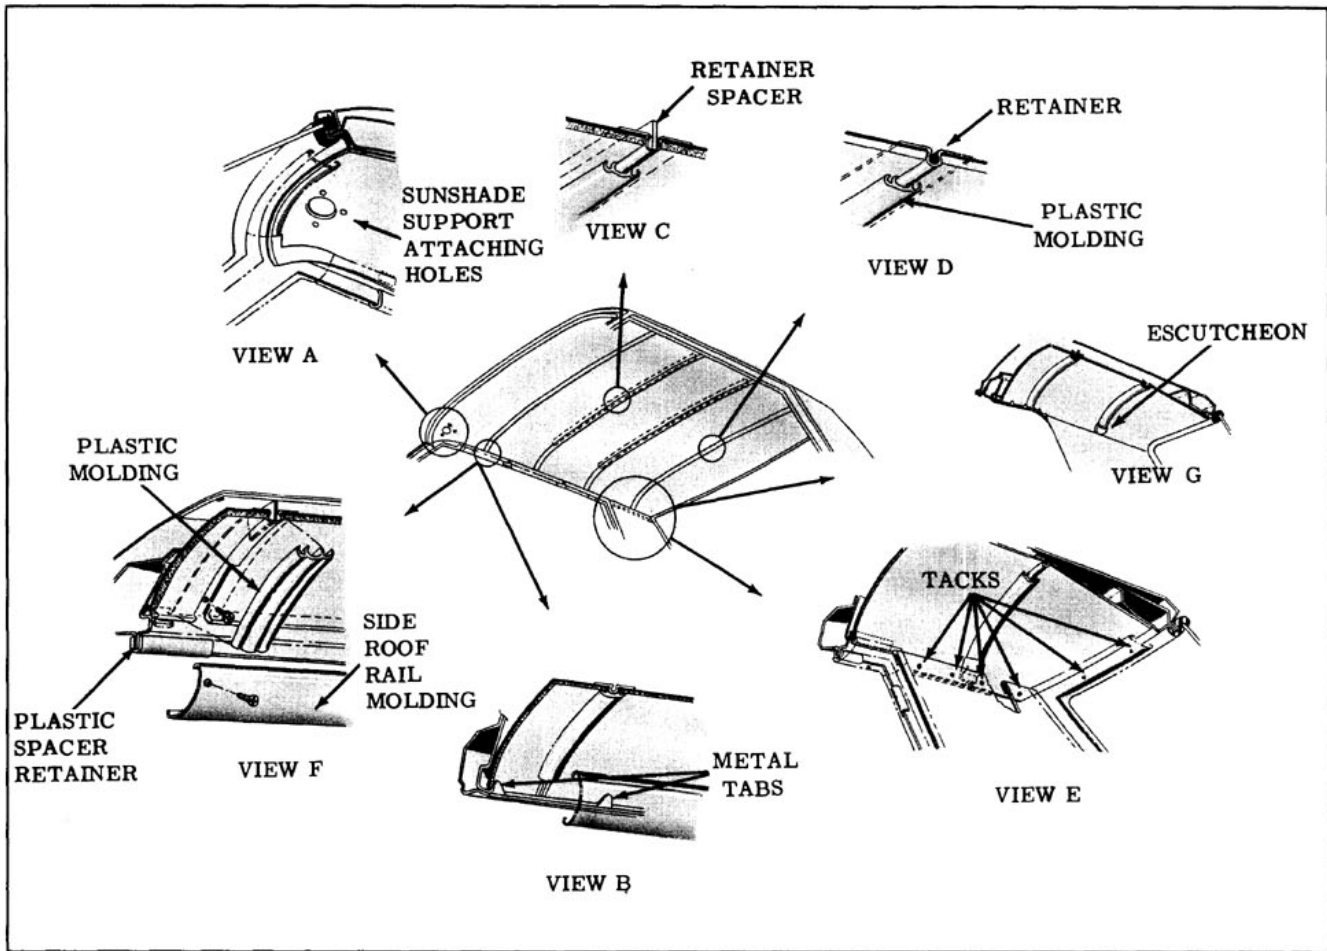

Fig. 16-89 Poly-Foam Headlining Installation
4. Carefully bend down metal tabs securing headlining section to side roof rails. (View B, Fig. 16-89) Headlining is secured at side roof rails by side roof rail moldings. (View F, Fig. 16-89)
- When retainers are required to be removed, remove screws securing retainer to side roof rail. (View F, Fig. 16-89) Retainer spacers are installed in the No. 2 and No. 3 retainers. (View C, Fig. 16-89)
- If retainers were removed, make certain that retainer spacer shown in View C, Fig. 16-89 is installed prior to installing retainers.
- Install headlining sections by positioning one edge in retainer and centering section in relation to other sections and side roof rails; then carefully snap remaining edge in other retainer. Where present, bend side roof rail tabs over headlining section. Snap plastic molding over retainers. On rear plastic molding, install escutcheons on ends prior to installation. (View "G", Fig. 16-89)
- If installing rear section of headlining assembly, position forward edge of section in retainer. Center and align section in relation to side roof rails and back window opening and stay tack section in place. Recheck alignment; then starting at center of back window area, permanently tack section to tacking strips at back window opening. (View "E", Fig. 16-89)
- If installing front section of headlining assembly, position appropriate edge in retainer. Center headlining section in relation to other sections, side roof rails, and sunshade support attaching holes. (View "A", Fig. 16-89) Install sunshade supports. Where present, bend up tabs on side roof rails to retain headlining section.